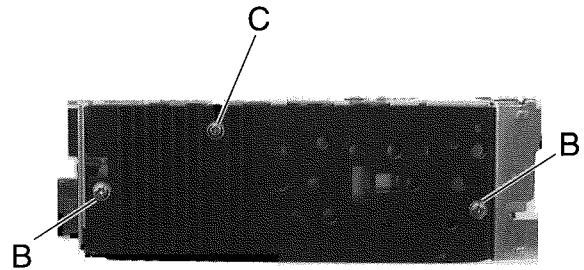
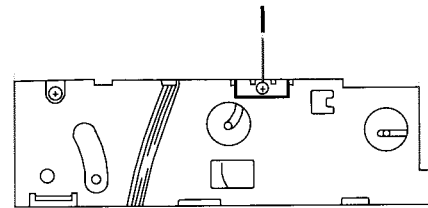

Fig 6
Fig.7
(See Fig. 6, Fig. 7)
■ **Removing the rear bracket (See Fig. 7)**